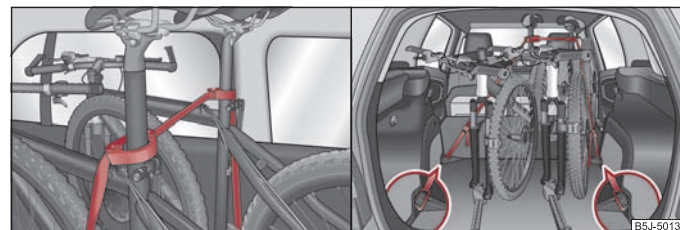

Fig. 71 Securing the bicycles with clamps / securing the bicycles with a strap
- Position the clamp with the rubber part to the front (in direction of travel) as far as possible below the saddle rod and close the clamp ⇒ fig. 71.
- When transporting two bicycles tension the strap ⇒ fig. 71 between the saddle rods, by pushing the bicycles apart.